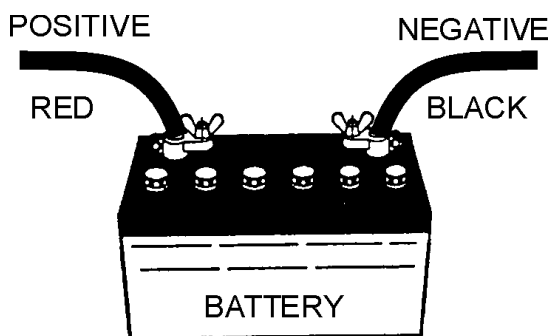

Figure 38. Battery Connections
**ALWAYS** be sure the battery cables (Figure 38) are properly connected to the battery terminals as shown below. The **RED** cable is connected to the positive terminal of the battery, and the **BLACK** cable is connected to the negative terminal of the battery.